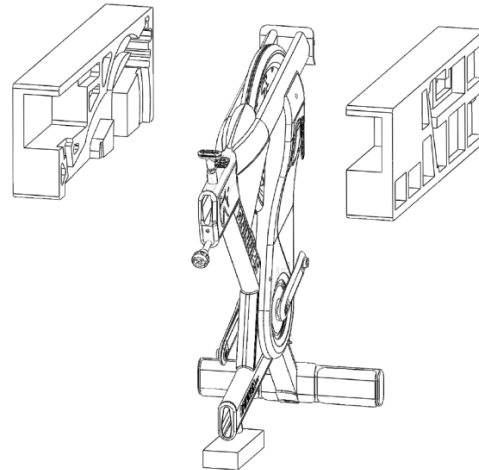

Fig. 11
11. Split and remove (Fig. 11) the foam covering the front of the Spinner frame.